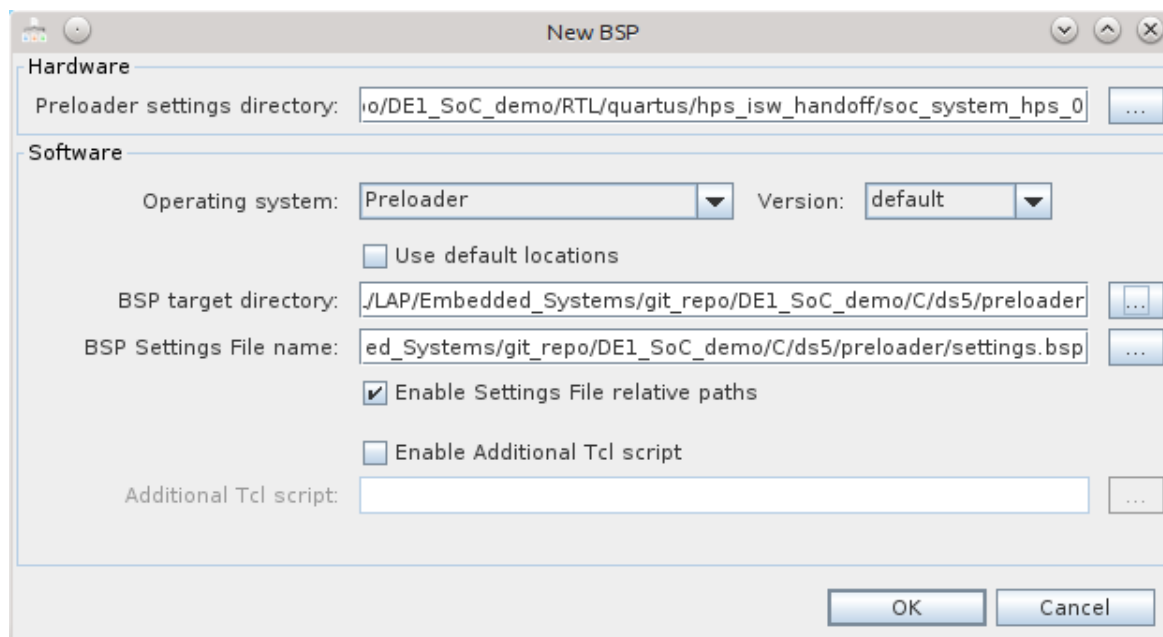

Figure 8-19. New BSP Dialog
- b. Disable the "Use default locations" checkbox and under the "BSP target directory", select the "DE1\_SoC\_demo/C/ds5/preloader" directory. You should have something similar to Figure 8-19.